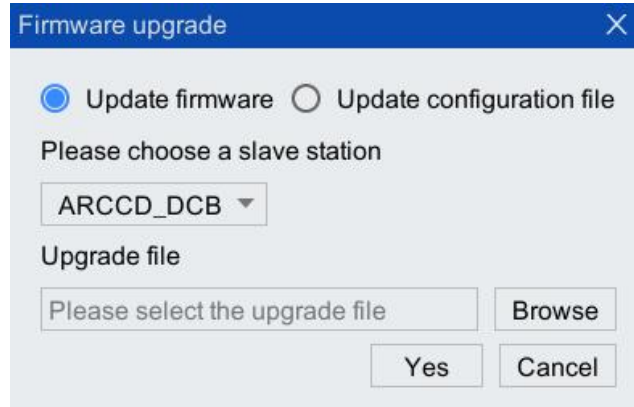
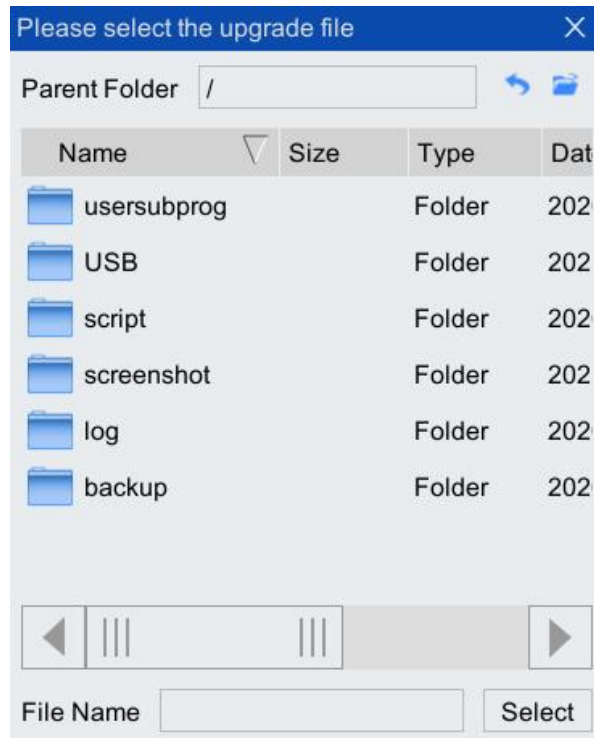

Figure 8-45 "Firmware Upgrade" interface
Figure 8-46 "Please select the upgrade file" dialog box
Step1. Select "System> System and Update> Firmware Update" option to pop up "Firmware Update" interface shown in Figure 8-45.
Step2. As shown in Figure 8-45, select "Upgrade Firmware", select "DCB" as slave, and then click <Browse> button to pop up "Please select the upgrade file" dialog box, as shown in Figure 8-46. Find the path where the DCB firmware upgrade file is located, select the upgrade file, and click <Select> button.